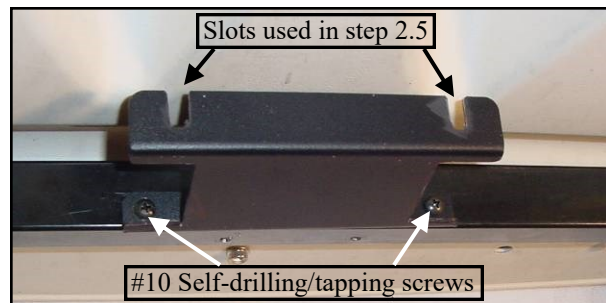

Figure 2.3 (view forward from center of seat)
2.3 Per fig. 2.3, orient Heater Mount 1 as shown, lining up the holes in the mount with the marks made in the previous step. Attach using two #10 x 3/4" long self-drilling/tapping screws using a drill, taking care not to over-tighten and strip out the threads.